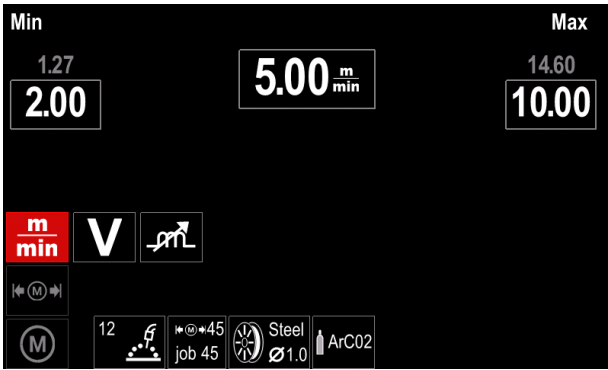

Figure 37.
- Figure 37. shows the effect of changing the values of parameters.